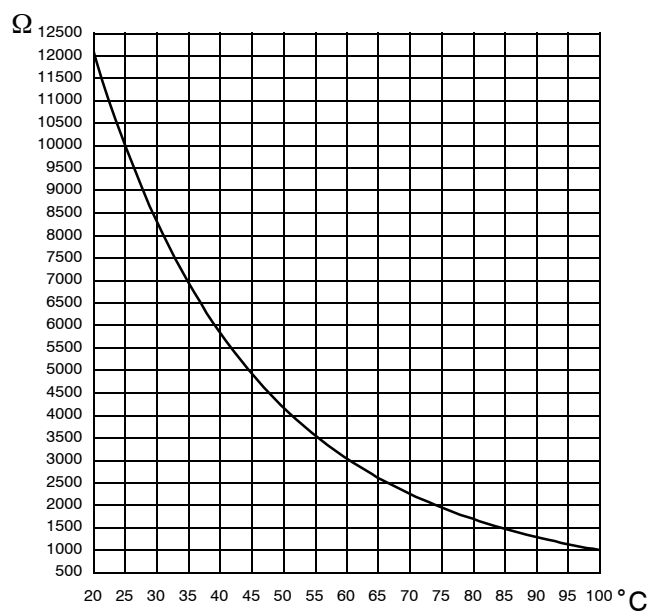

Fig. 20.4
- 2 Measure the Flue temperature probe NTC electrical resistance at the ambient temperature and check it according to the graph in Fig. 20.4